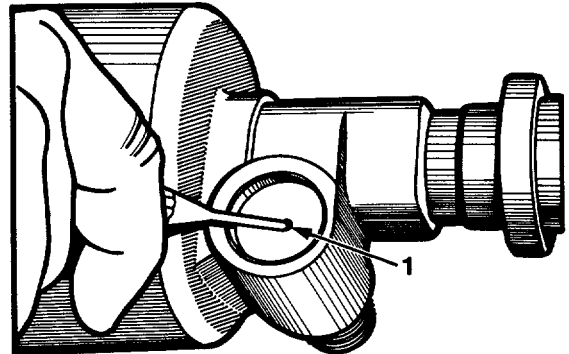

Fig. 42 Removing Tachometer Drive Shaft Cover
- a. Drill a 3mm (1/8 inch) hole in center of cover (Figure 42).
- b. Insert a hooked tool or a punch into hole in cover and pry cover from distributor housing (Figure 42).